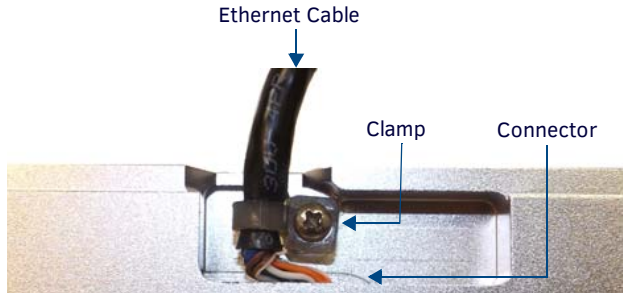

FIG. 19 Bottom of the MXT-701/1001
In tabletop installations where concealing the Ethernet cable is desired, a hole at least 1.00" (2.54 cm) in diameter is required in the surface to allow passage of the female RJ45 connector (FIG. 19). If using a smaller hole is unavoidable, you will need to disconnect the Ethernet cable (ECA5968-05) from the device, to feed the male end of the cable through.
2. Remove the clamp holding the Ethernet cable (FIG. 19).